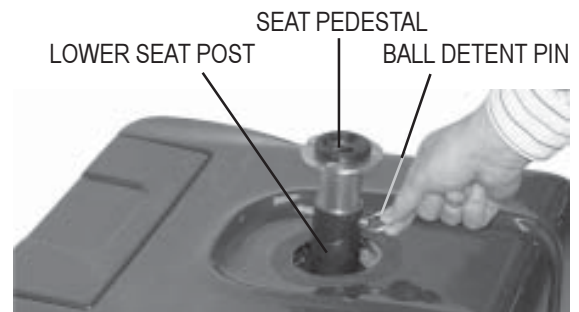

FIGURE 12. SEAT HEIGHT ADJUSTMENT
2. Use the attached ring to pull and remove the ball detent pin from the lower seat post. See figure 12.